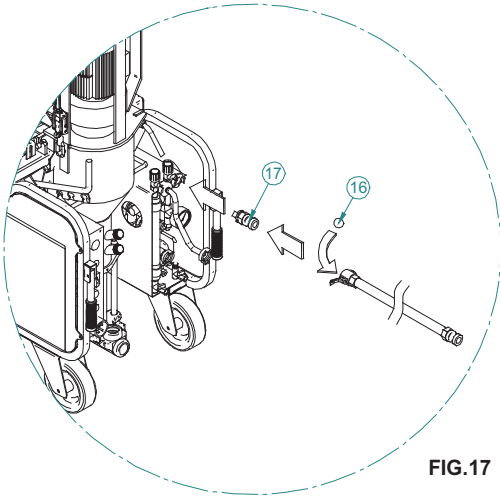

FIG.17
Remove the mixer and clean. Clean the mixing zone with a brush. Insert the scraper (ref.15) as shown in fig.17, close the mixing chamber, turn the main switch to the correct position (blue lamp ON) and then press the start pushbutton. Leave running for 5-10 seconds, until the mixing chamber is completely clean.
Proceed with pipeline cleaning. Insert a washing sponge (ref.16) at the start of the pipeline, connect the material delivery hose to the mortar hose-water hose coupling (ref.17), and then connect the latter to the auxiliary water valve. Insert the water pump and open the auxiliary water valve until the washing sponge comes out from the other end (fig.17).